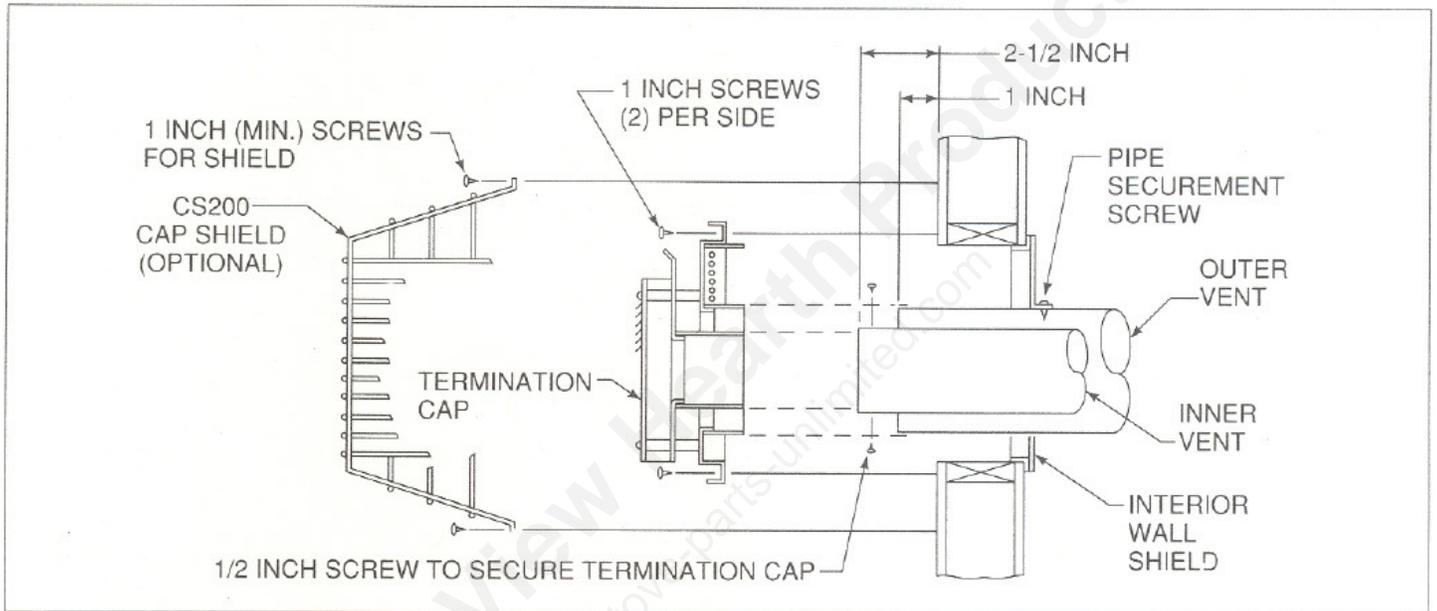

Figure 7
The last section of vent may require cutting, depending on the wall thickness and appliance location. The end of the vent must penetrate the exterior wall. Cut the inner and outer sections so the pipe extends past the wall by 1" on the outer pipe and 2 1/2" on the inner pipe. See Figure 7 (page 5) and Table 2. Horizontal runs will require the use of (1) Vent Support (VS4) for every 3' of vent. The VS4 may be located anywhere along the VK4.
To install the cap, slide the cap pipe sections into the vent pipe. Secure the cap flush to the wall using (8) 1" fasteners provided. Seal the cap to the wall with a mastic such as silicone caulking. Fasten the inner vent with (3) 1/2" screws to secure the vent. (An optional CS200 Cap Shield is required if the cap is located in an area of easy accessibility.) See Figure 7. Vent termination must not be recessed into wall or siding.